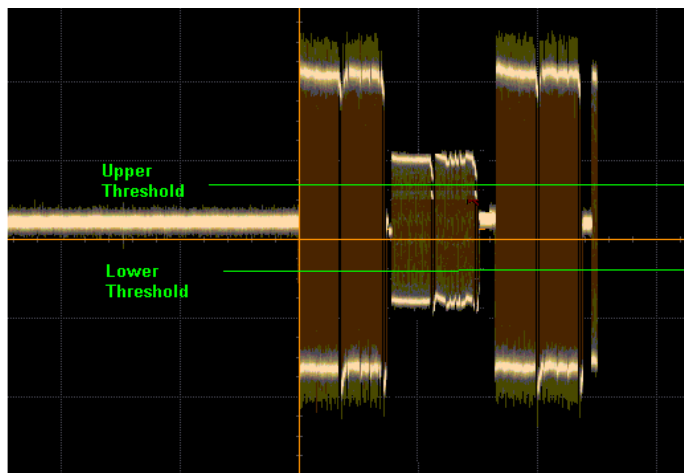

Figure 227 Correct Threshold set
- Upper Threshold/Lower Threshold** – The threshold level of signal must be set properly so that both upper and lower thresholds cross both the source and sink signals when the DUT is attached with a reference sink. The threshold levels are important parameters because they are used for edge detection when decoding a source command from a sink reply. Figure 227 and Figure 228 shows correct and incorrect threshold levels.